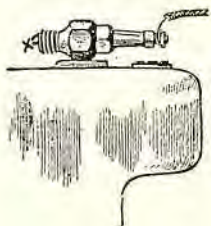
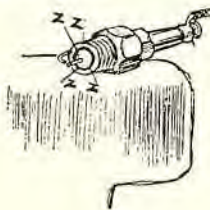

Fig. 27
Fig. 28
To test a spark plug to see if it is carbonized: Place the spark plug on the cylinder with wire connected and switch on (Fig. 27). Crank the engine slowly. If the spark occurs at the gap (X) the plug is in order. If it sparks up inside of the shell, between the porcelain and shell at (Z) (Fig. 28), it is fouled and misses. It must then be taken apart and the carbon must be removed.